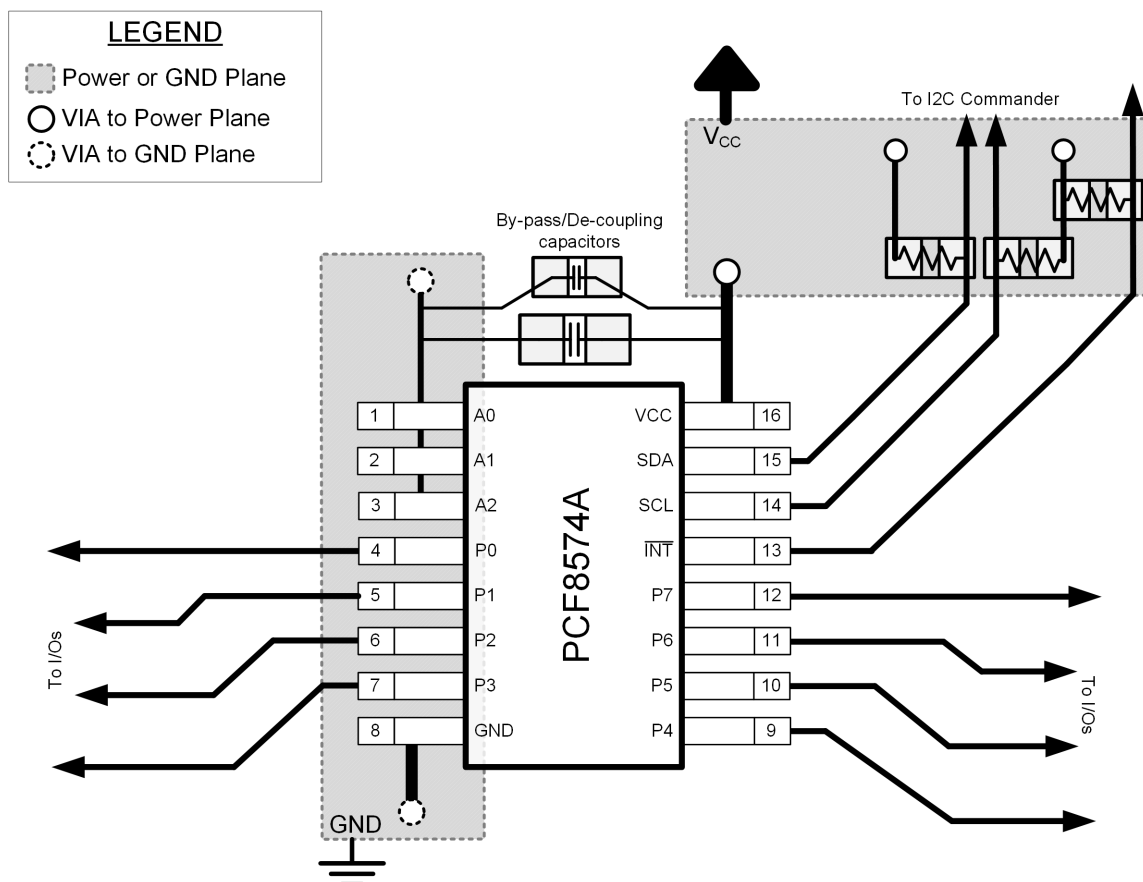

图 11-1. Layout Example for PCF8574A
When the I/Os are used to control LEDs, normally they are connected to  $V_{CC}$  through a resistor as shown in 图 11-1. For a P-port configured as an input,  $I_{CC}$  increases as  $V_I$  becomes lower than  $V_{CC}$ . The LED is a diode, with threshold voltage  $V_T$ , and when a P-port is configured as an input the LED will be off but  $V_I$  is a  $V_T$  drop below  $V_{CC}$ .
In all PCB layouts, it is a best practice to avoid right angles in signal traces, to fan out signal traces away from each other upon leaving the vicinity of an integrated circuit (IC), and to use thicker trace widths to carry higher amounts of current that commonly pass through power and ground traces. By-pass and de-coupling capacitors are commonly used to control the voltage on the  $V_{CC}$  pin, using a larger capacitor to provide additional power in the event of a short power supply glitch and a smaller capacitor to filter out high-frequency ripple. These capacitors should be placed as close to the PCF8574A device as possible. These best practices are shown in Figure 11-1.
For the layout example provided in Figure 11-1, it would be possible to fabricate a PCB with only 2 layers by using the top layer for signal routing and the bottom layer as a split plane for power ( $V_{CC}$ ) and ground (GND). However, a 4 layer board is preferable for boards with higher density signal routing. On a 4 layer PCB, it is common to route signals on the top and bottom layer, dedicate one internal layer to a ground plane, and dedicate the other internal layer to a power plane. In a board layout using planes or split planes for power and ground, vias are placed directly next to the surface mount component pad which needs to attach to  $V_{CC}$  or GND and the via is connected electrically to the internal layer or the other side of the board. Vias are also used when a signal trace needs to be routed to the opposite side of the board, but this technique is not demonstrated in Figure 11-1.